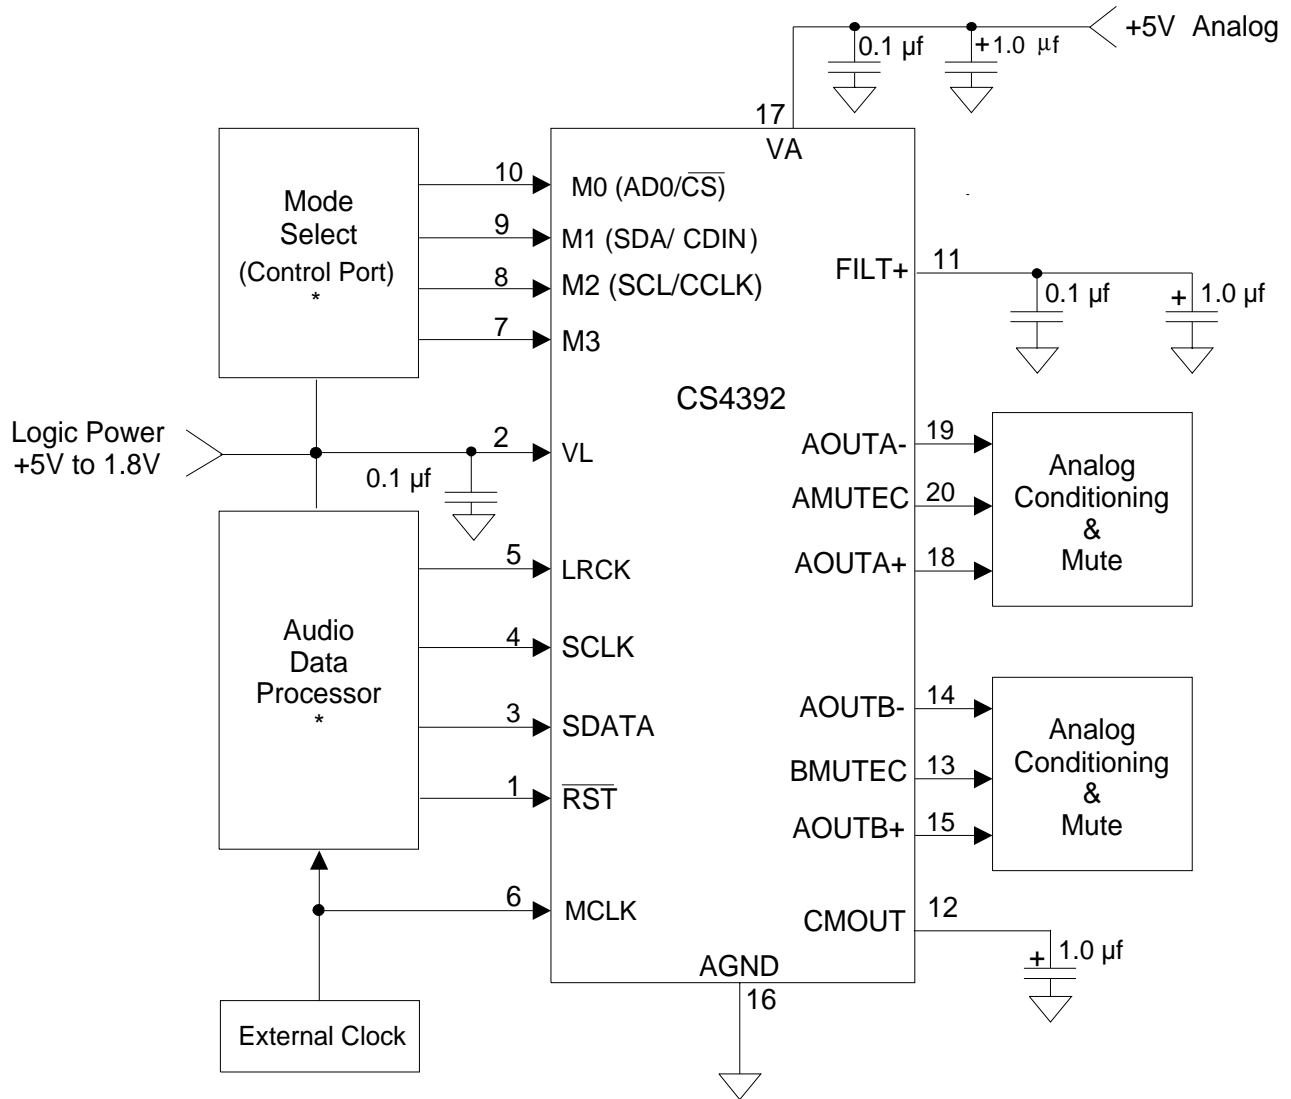

Figure 5. Typical Connection Diagram - PCM Mode
7. Valid with the recommended capacitor values on FILT+ as shown in Figure 5. Increasing the capacitance will also increase the PSRR. NOTE: Care should be taken when selecting capacitor type, as any leakage current in excess of 1.0 μ A will cause degradation in analog performance.